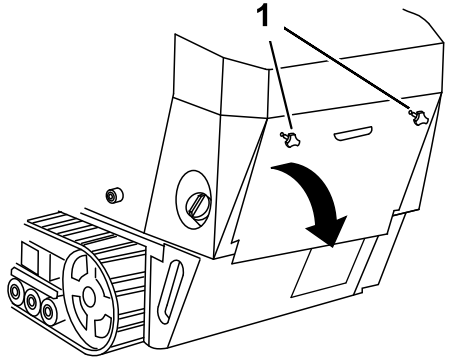

Figure 3
1. Unscrew the 2 hand knobs securing the rear-access cover to the machine (Figure 3).
2. Tilt the rear-access cover down (Figure 3) and remove it to access the internal components.